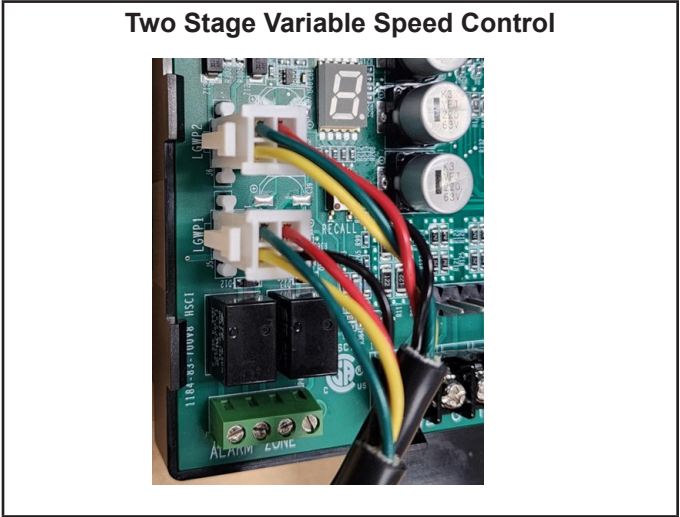

FIGURE 57
- Ensure the cable is properly seated into the SENSOR 1 plug (LGWP1). The Molex plug clip should lock into the Molex connection point for a secured connection, as shown below in FIGURE 57. Verify the connection is free of dust, debris, and moisture.